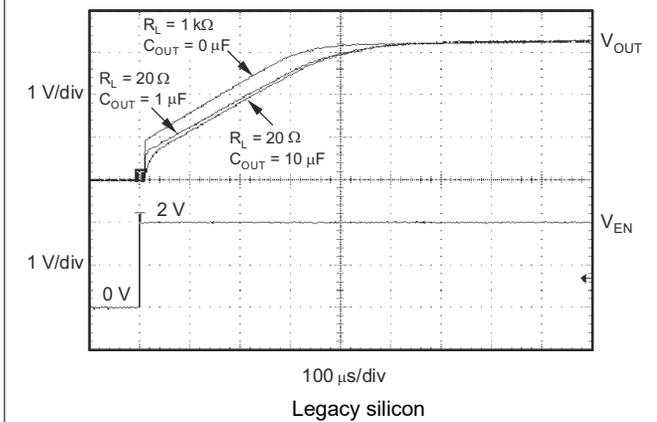

Figure 5-39. TPS73133 Turn-On Response
The enable pin (EN) is active high and is compatible with standard TTL-CMOS levels. A V_{EN} below 0.5V (maximum) turns the regulator off and drops the GND pin current to approximately 10nA. When EN is used to shutdown the regulator, all charge is removed from the pass transistor gate. A V_{EN} above 1.7V (minimum) turns the regulator on and the output ramps back up to a regulated V_{OUT} (see Figure 5-39).